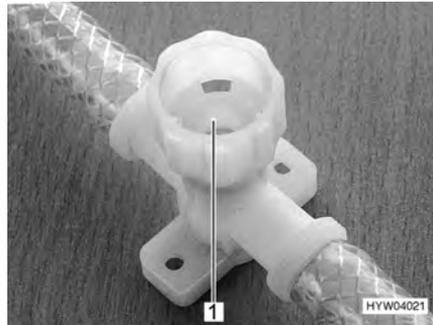

Fig. 134 Drain cock for hot water source
- Close all drain cocks. To do this, close the caps (Fig. 134,1) by turning them in a clockwise direction.
- Open all drain cocks of the hot water source. To do this turn the caps (Fig. 134,1) in an anticlockwise direction.